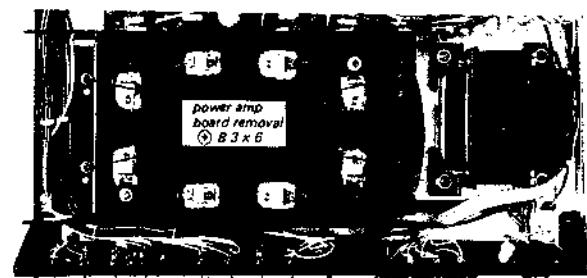

Fig. 2-7. Power amplifier board removal
2. Remove the four screws (④ B 3 x 6) securing the power amplifier board to its mounting bracket as shown in Fig. 2-7.